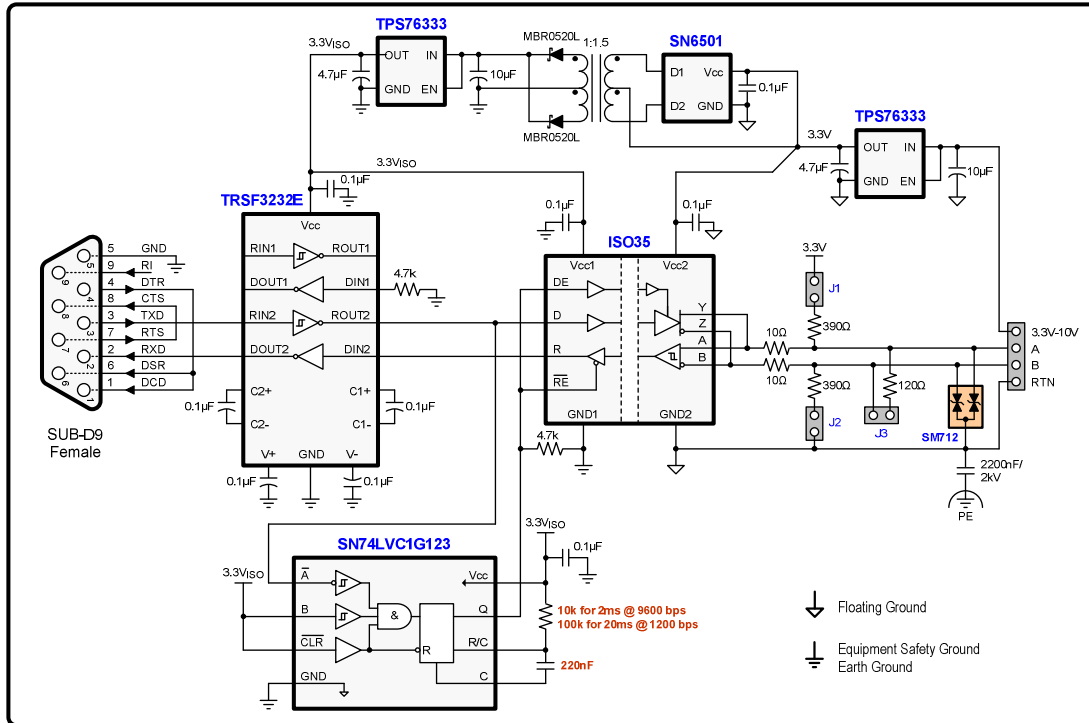

Figure 2. Isolated RS-232 to RS-485 converter with auto-direction control.
Figure 2 shows the schematic of a low-power, isolated converter design. Here the RS-232 serial port of a personal computer (PC) for example, connects to the SUB-D9 female connector on the left.
The converter design in **Figure 2** eliminates this possibility by implementing an auto-direction function. The auto-direction detection is accomplished with a monostable flip-flop, whose output is triggered high by the start bit from the 232-receiver output. By default the RS-485 transceiver is in receive mode. When the monostable output goes high, it switches the transceiver into transmit mode.